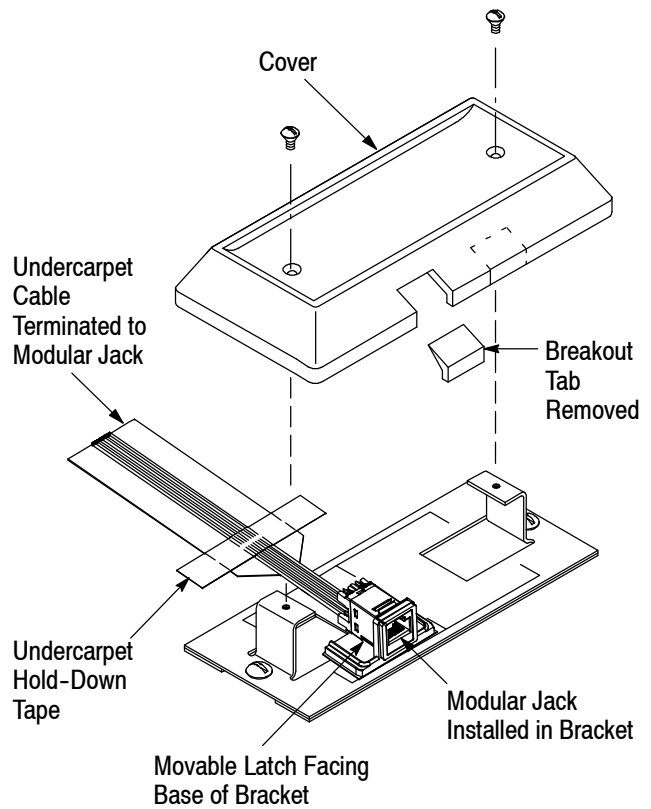

Figure 4
5. Insert the modular jack into the bracket with the movable latch facing the base of the bracket until it is secure. See Figure 4.
6. Install Undercarpet Hold-Down Tape 553481-1 to secure the cable to the floor. Refer to Figure 4.
7. Remove the break-out tab(s) corresponding to the modular jack(s) from the cover. Secure the cover to the mounting plate using the attaching screws. See Figure 4.